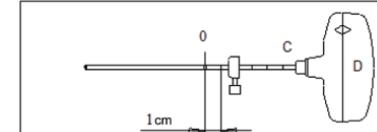
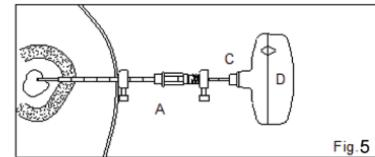

Fig. 4
Fig. 5
- Note:** To replace the Stylet (B) in the Cutting Cannula (A), place first the Handle (F) on the luer end of the Cutting Cannula (A) by aligning tabs and slots. Then insert the Stylet (B) at a right angle to the assembled Cutting Cannula and Handle (A+F) and screw it until it clicks into place.
- FIG. 4** Adjust the depth gauge on the Biopsy Needle (C) to the appropriate centimeter marker and tighten to provide a visual guide.
- Note:** The selected centimeter marker will represent the Biopsy Needle (C) protrusion beyond Cutting Cannula (A).
FIG. 5 Insert the assembled Biopsy Needle and Handle (C+D) through the Cannula (A). Carefully rotate the Biopsy Needle (C+D) clockwise until desired biopsy depth is achieved (or until the depth gauge of the Biopsy Needle (C) reaches the Cannula (A) luer end). Then rotate Biopsy Needle and Handle (C+D) counterclockwise and remove. Remove the Biopsy Handle (D) from the Biopsy Needle (C); insert the Ejector Pin (E) through the Biopsy Needle (C) from the luer end and eject the sample.
Note 1: Repeat process from Fig.4 if desired and anatomically safe.